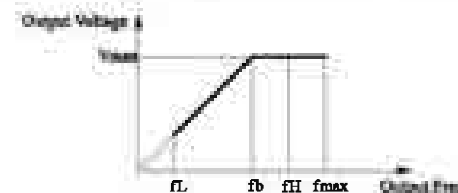

Figure F0-1 Voltage and Frequency
rated frequency of motor, as f_b showed in the following figure; the maximum output voltage V_{max} is the output voltage when output basic running frequency, usually rated voltage of the motor, as V_{max} showed in the following figure; f_H , f_L are defined as upper limit frequency and lower limit frequency separately, as showed in figure F0-1:
4. The maximum output frequency, upper limit frequency and lower limit frequency have relations as showed in figure F0-1, please notice the numerical value order when setting.